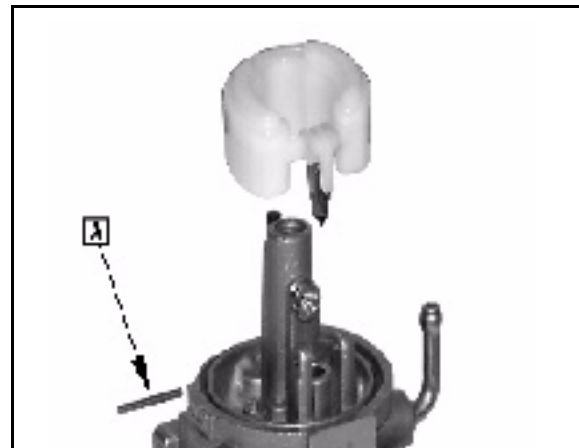

Fig. 121
11. Install float and needle assembly to carburetor. Install and center float hinge pin ([A] Fig. 121).